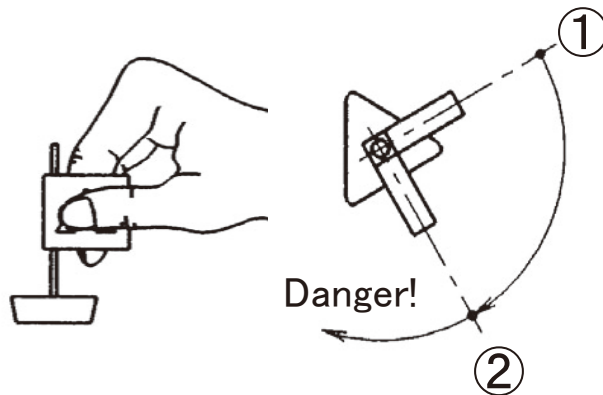

Fig 2
- ② **Fig 2.** After ①, tighten the screw to the set torque value as stated in table 1.